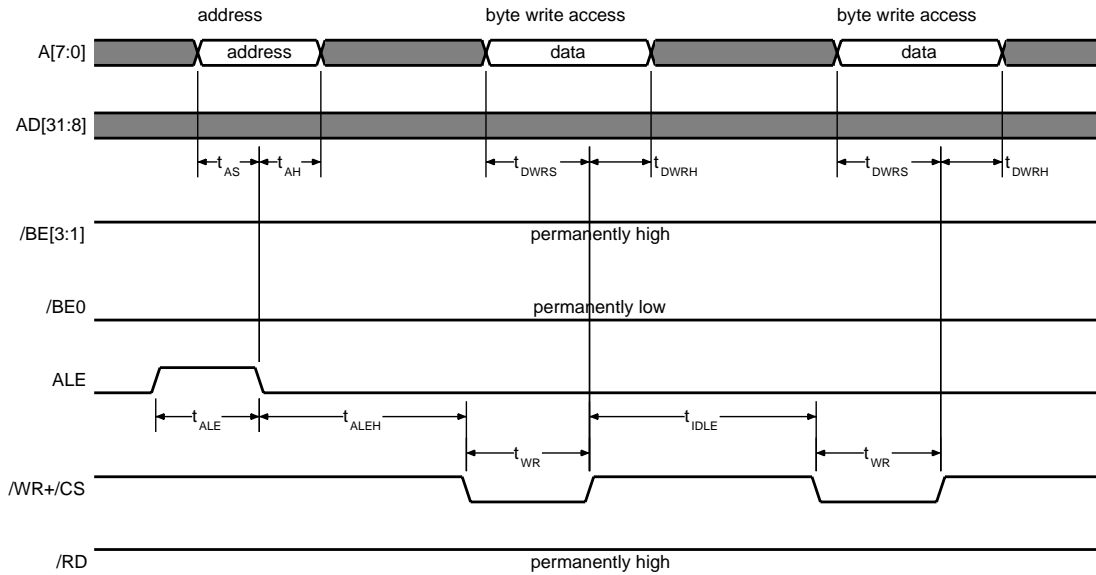

Figure 2.14: Write access from 8 bit processors in mode 4 (Intel, multiplexed)
8 bit processors write data like shown in Figure 2.14. Timing values are listed in Table 2.24. /BE3 ... /BE1 must always be '1'. /BE0 controls the data bus D7 ... D0 and can be fixed to '0'.
An 8 bit write access (low byte) is performed in the same way as it is done with 8 bit processors. Thus see Figure 2.14 for the timing specification.
**Table 2.24:** Symbols of write accesses in Figures 2.14, 2.16 and 2.18